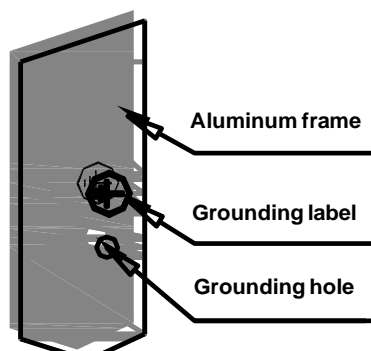
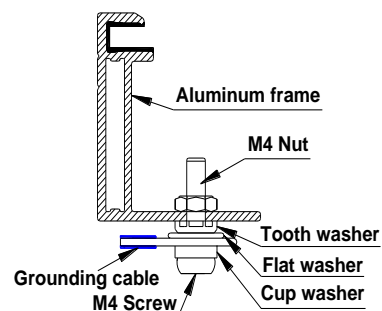

FIG 4 Grounding hole and ground label
FIG 5 Grounding method
7.5.1 GM Solar modules use anti-corrosion and oxidation resistance aluminum frame as rigid supporting. In order to protect the module from lightning strike, electrostatic damage, and personnel safety, all module frames and mounting racks must be properly grounded, as shown in Figure 4: grounding hole and grounding label. Use the recommended connector terminal, or an equivalent, to connect the cable to the frame, and assure good electrical contact as shown in Figure 5: Grounding method.